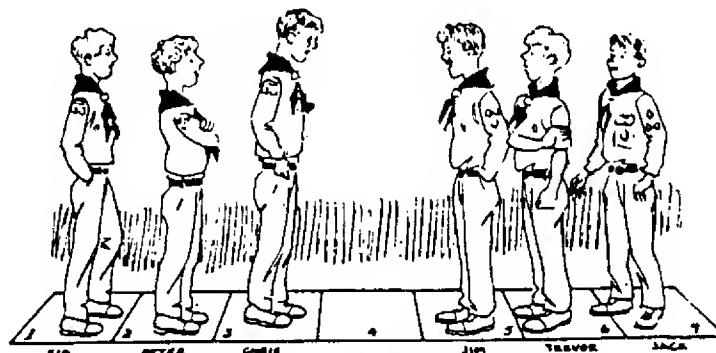

Figure 417 The Traffic Jam
40. Traffic Jam: This problem may be worked with 6 or 7 people. Six people line up in two teams on squares such as shown in Figure 417. Without any of the six talking, a seventh individual tells them how to move. In this exercise the six scouts must reverse